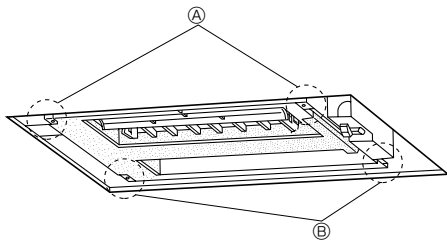

Fig. 5-2
5.2. Checks before setting in place (Fig. 5-2, 3)